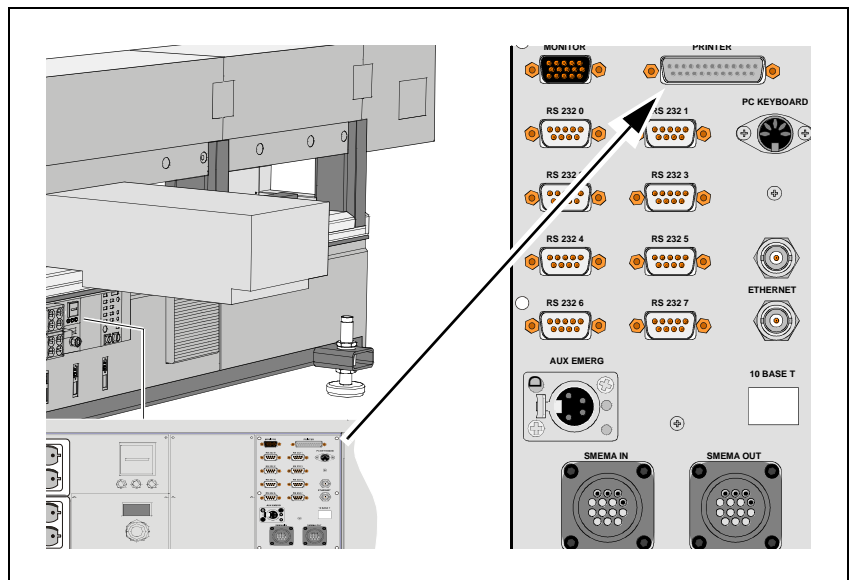

Figure 13-2. Mains input panel
6. Connect the other end of the cable to the printer connector on the MY machine backside (see Figure 13-2). Fasten the cable securely.